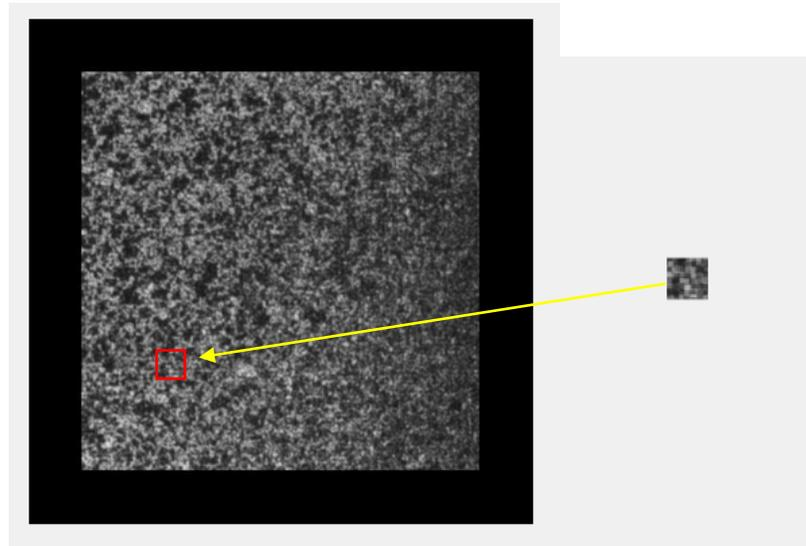

Fig 2: Locating a cropped image from the surface of a deformed specimen in an image of the undeformed specimen
- The images are stored as two-dimensional arrays of gray-scale values: for example, the image (from rotation_data.mat) shown in Fig 2 is stored in a 375x375 dimensional array called 'cur'. The grayscale value of the pixel at the top left-hand corner is stored in cur(1,1); the bottom left is at cur(375,1); the top right is at cur(1,375).